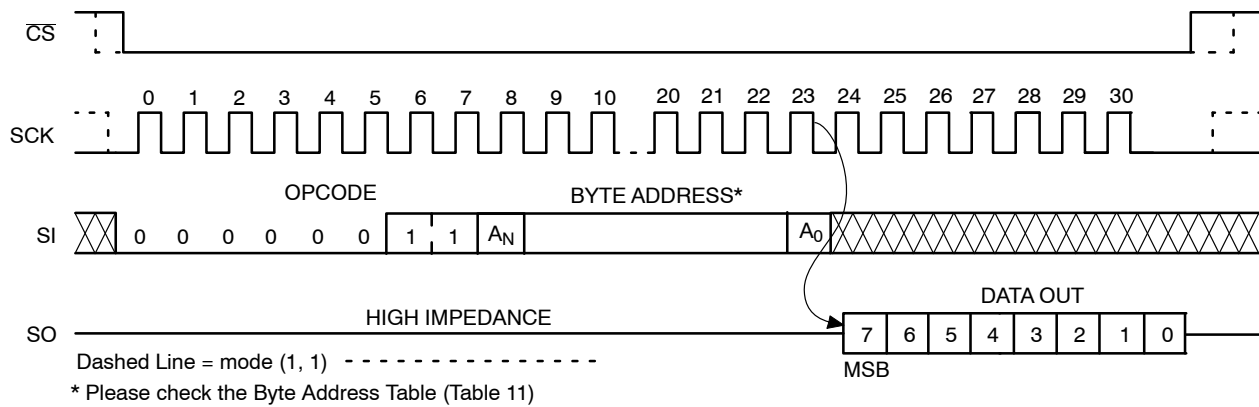

Figure 9. READ Timing
After receiving the last address bit, the NV25256 will respond by shifting out data on the SO pin (as shown in Figure 9). Sequentially stored data can be read out by simply continuing to run the clock. The internal address pointer is automatically incremented to the next higher address as data is shifted out. After reaching the highest memory address, the address counter “rolls over” to the lowest memory address, and the read cycle can be continued indefinitely. The read operation is terminated by taking CS high.
Reading the additional 64-byte Identification Page (IP) is achieved using the same Read command sequence as used for Read from main memory array (Figure 9). **The IPL bit from the Status Register must be set (IPL = 1) before attempting to read from the IP.** The [A5:A0] are the address significant bits that point to the data byte shifted out on the